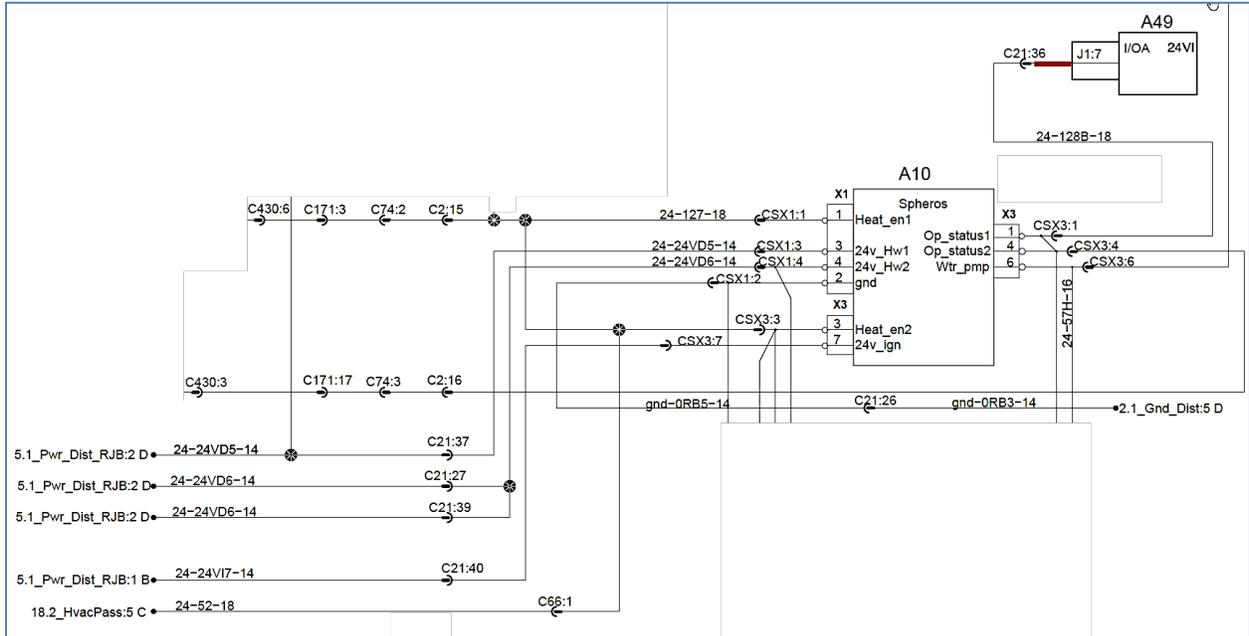

FIGURE 50
3. In the main power compartment: remove circuit connected from connector C21 pin 36 cavity (Figure 50 & Figure 51) and module A49 connector J1 pin 7 cavity.